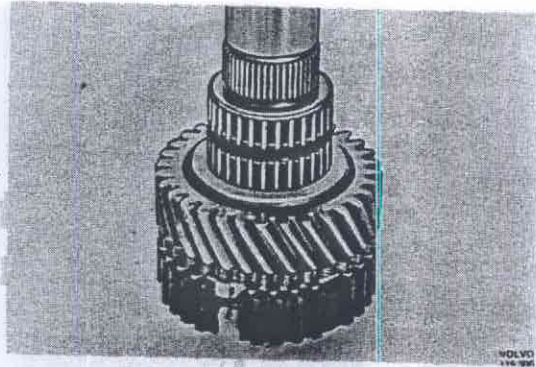

Fig. 43-83. Needle bearing
4. Fit the needle bearings for 2nd gear, Fig. 43-83. Fit 2nd gear and the synchronizing cone.